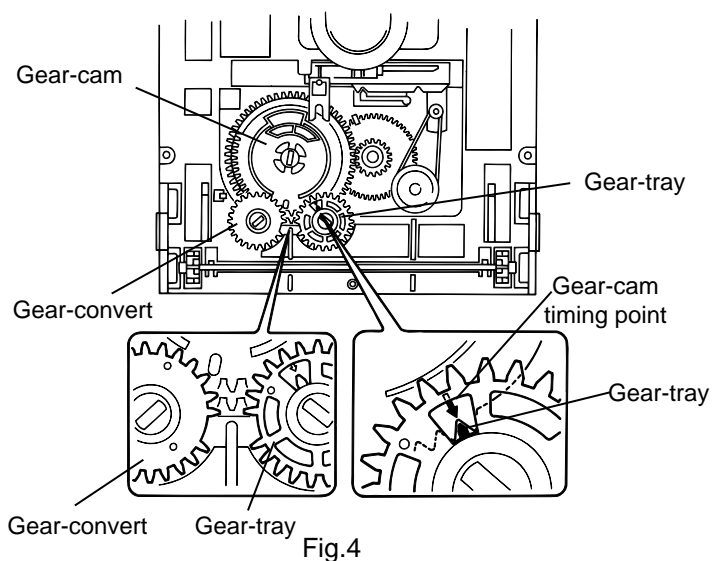

Fig.4
■ Reinstall the CD tray (See Fig.4 and 5)
1. Align the gear-cam with the gear-tray as shown fig.4, then mount the CD tray.